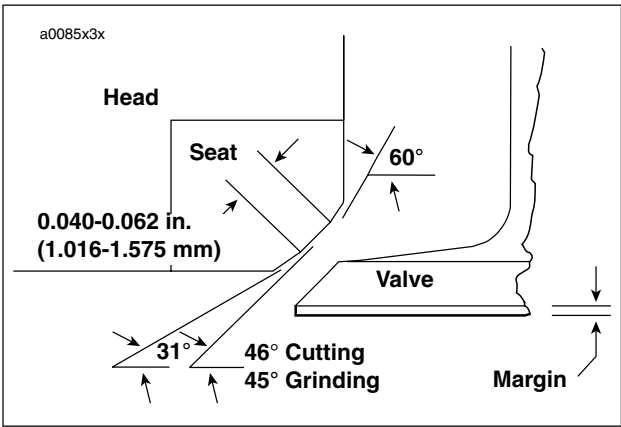

Figure 3-57. Valve Seat Angles
See Figure 3-57. Valve face angle is 45° for both intake and exhaust valves. If a valve re-facing grinder is used, it must be adjusted exactly to this angle.
- See Figure 3-57. Check the contact pattern on valve face. It should be 0.040-0.062 in. (1.016-1.575 mm) wide, and its center should be positioned 2/3 of the way toward the outside edge of face.